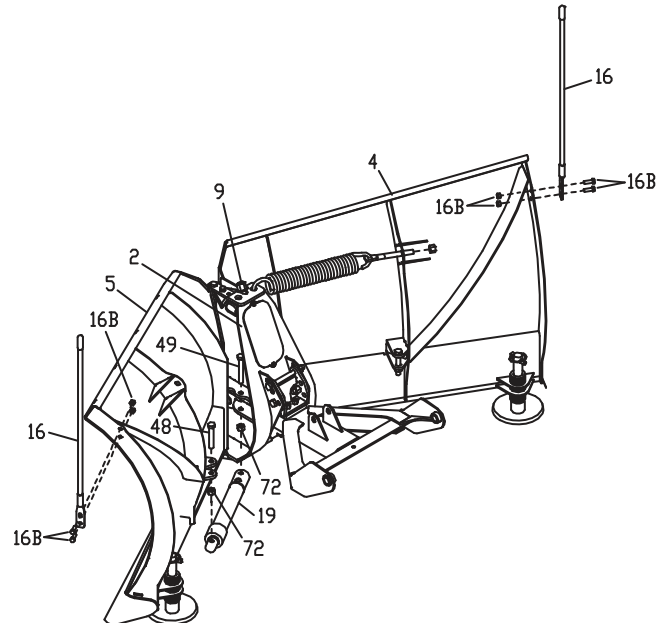

Figure 3. Cylinder & Blade Guide Assembly G10627
12. Hook one end of **MSC01509** Return Spring to the top hole on Center Section (2). Hook the opposite end of Return spring through 1/2" hole in closest rib to the center using 1/2" Spadebolt, 1/2" Flat Washer, and 1/2" Self-Locking Nut (**See Figure 3**). Tighten Spring until there is a 1/32" space between spring coils. Repeat this process for Return Spring on the opposite side of the plow.
14. Tighten Trip Spring Yoke (9) until 1-1/2" of thread is above the top of Center Section (2), or until desired spring tension is achieved.
15. Install Blade Guide (16) on outer rib of driver side Blade Half (5). Fasten using two 5/16" X 1" Hex Head Cap Screws (16B) and two 5/16" Nylon Lock Nuts (16B).
16. Repeat for passenger side Blade Guide (16).
17. Align pivot holes of Coupler Assembly (1) and pivot holes of Push Frame (3).
18. Insert 3/4" X 2" **HDW09556** Pivot Pin (57A) through Coupler Assembly (1) and Push Frame (3). Secure with **HDW01722** 3/4" Flat Washer (57B), and **HDW01881** Cotter Pin (57C).
19. Remove the plug from the top end of Lift Cylinder (20).
20. Install Breather Vent (66) into top end of Lift Cylinder (20).